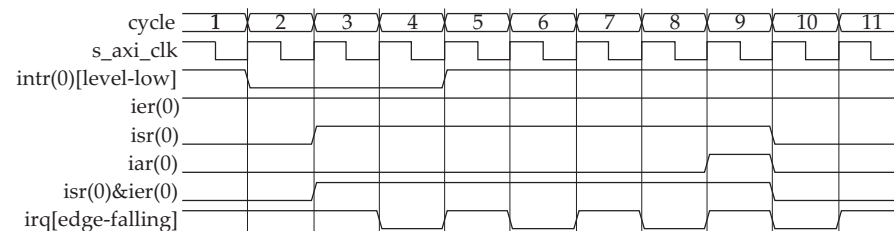

Figure 16: Input Intr - Level Sensitive (Active Low) and Output Irq - Edge Sensitive (Falling)
- Configured Input Interrupt (Intr) for Level sensitive (active Low) and Output Interrupt Request (Irq) to Edge sensitive (falling) and is shown in Figure 16